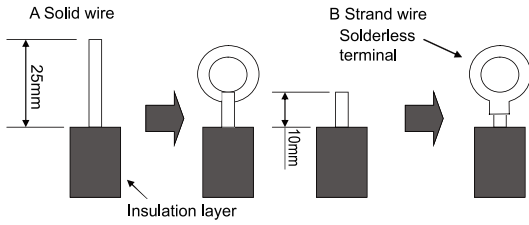

Fig.33
- (1) For solid core wiring (Fig.33)
(2). For strand wiring (Fig.33)